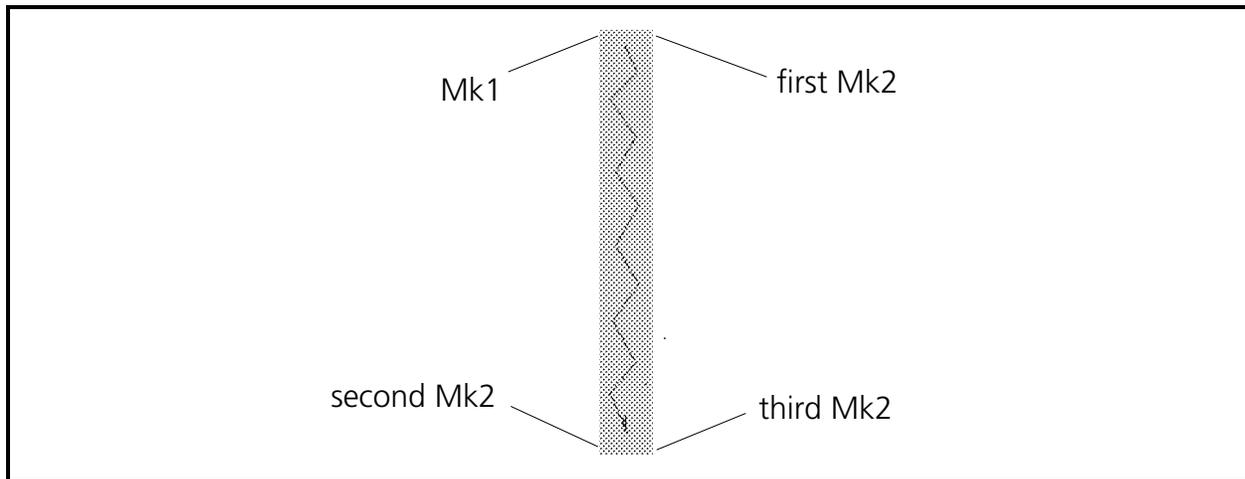

Figure 6-39
4. In this letter **I**, for simple straight column stitching, you define the beginning of the column with a Mk1 on the left side of the column at the top (see Figure 6-39).
5. Next click the Mk2 push button in the toolbar and enter a Mk2 at the beginning of the right side of the column at the top. (see Figure 6-39).
6. Now move to the bottom left of the letter to the end of the first line of the column and enter another Mk2 (see Figure 6-39).
7. The last step in generating the column is to go to the end of the second line of the column (at bottom right of the letter) and enter a third Mk2 (see Figure 6-39).